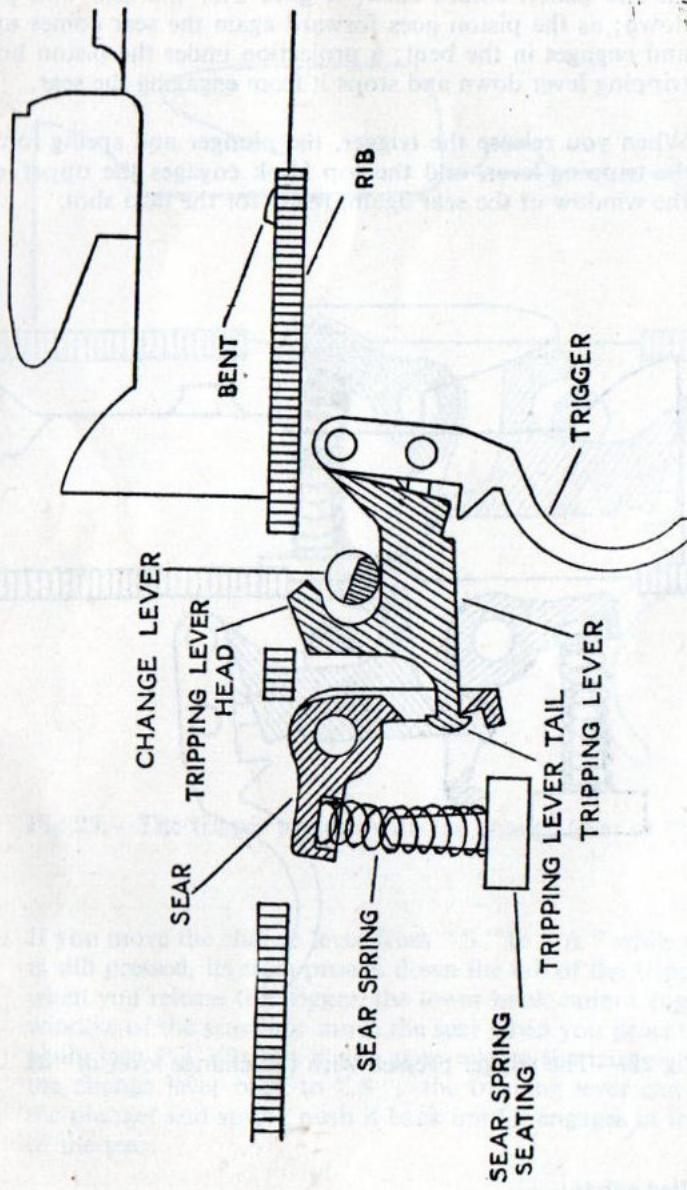

Fig 27.—The trigger pressed with the change lever at "A"
2. Automatic.—When the change lever is at "A" (see Fig 27):—